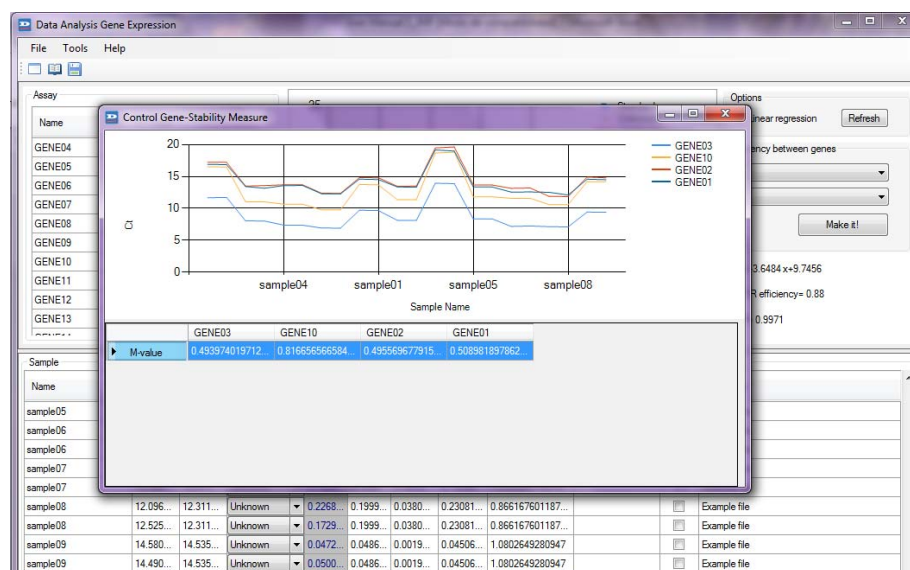

Figure 5. Control Gene Stability analysis
4.2.5. Identify and select the most stable expressed reference genes to perform the analysis. In the Tools, select the “Find control gen-stability” option (Fig. 5). The lowest M value indicates genes with the most stable expression (Vandesompele *et al.*, 2002).